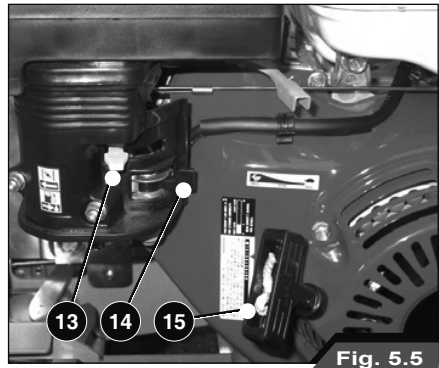

Fig. 5.5
- Move the gas control (5) halfway.
- Predispose the flail mower for ignition by moving the Start Lever for gasoline engines (13). The Fuel ON/OFF lever (14) should allow the fuel to pass (Fig. 5.5). Please consult the use and maintenance booklet of the engine.